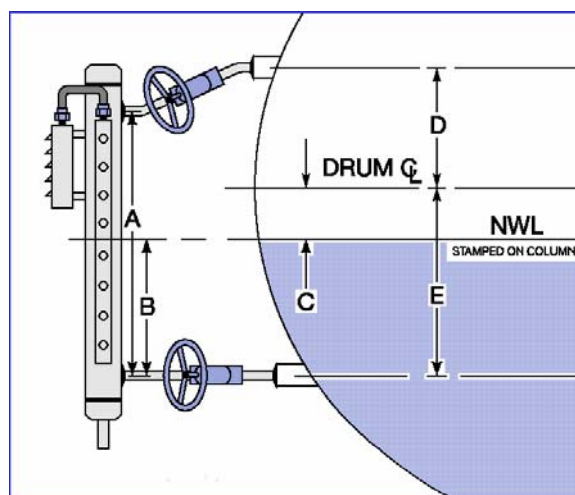

Figure 1 - Vessel Installation
- Figure 1 - Vessel Installation2